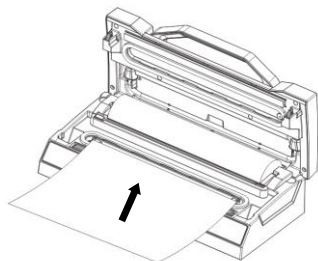

Fig.5
6. Put one end of the bag on top of the sealing Element into the bag fixture— **Fig.5**